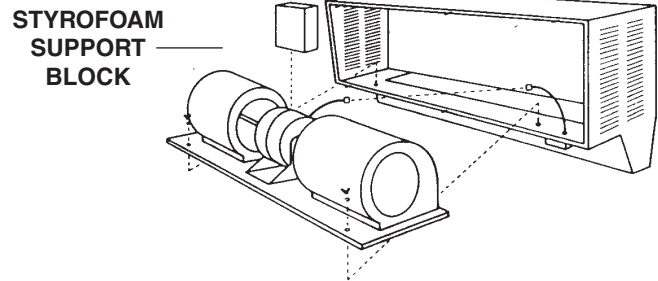

Figure 4 - Removing Motor/Blower Assembly
5. Carefully disconnect motor electric cord and heater plug assembly and remove two wing nuts on blower base. (See Figure 4.)